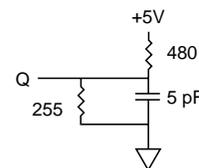

Fig. 2 OUTPUT LOAD EQUIVALENT
6. tHZCE, tHZOE and tHZWE are specified with CL = 5pF as in Fig. 2. Transition is measured ±500mV from steady state voltage.